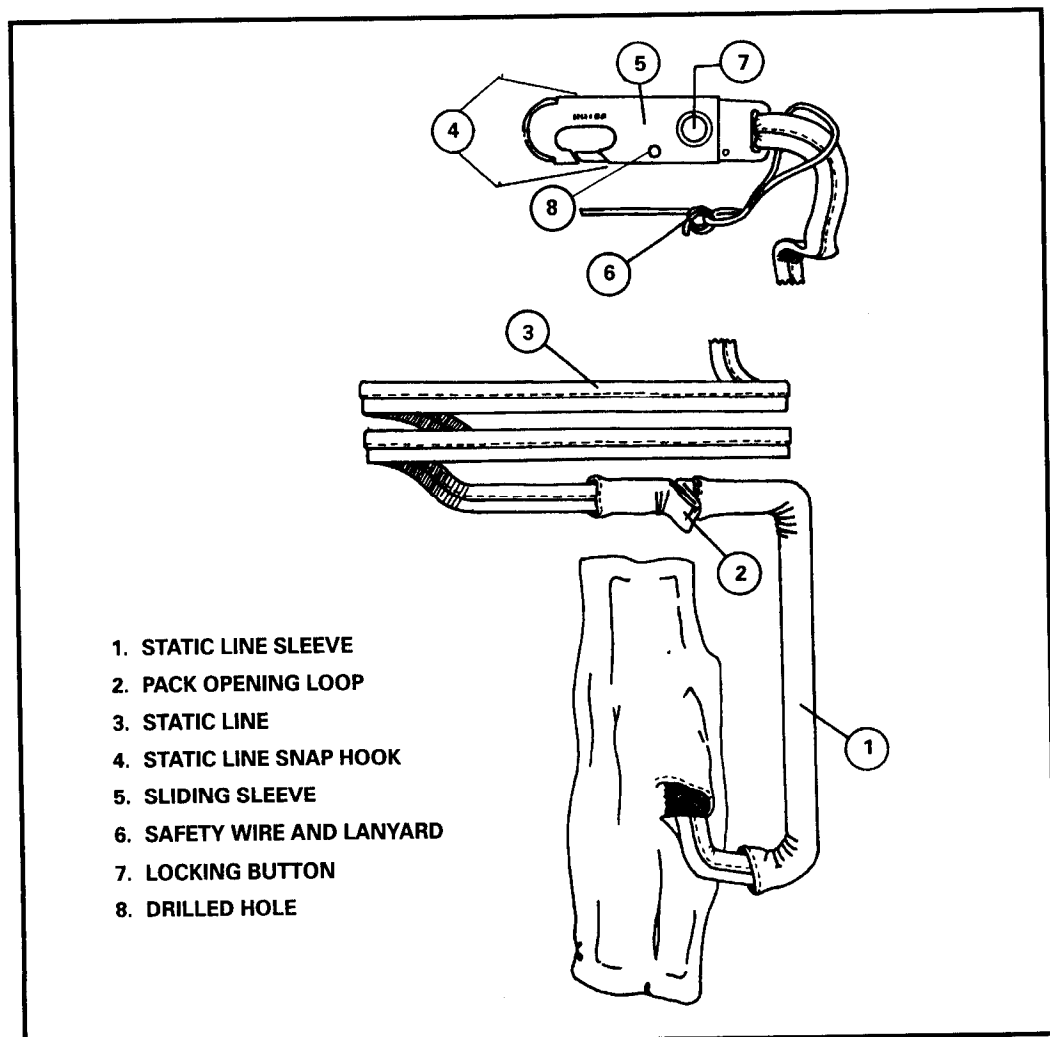

Figure 2-2. Static line and nomenclature.
- b. **Static Line Assembly.** The static line (Figure 2-2) consists of the following: